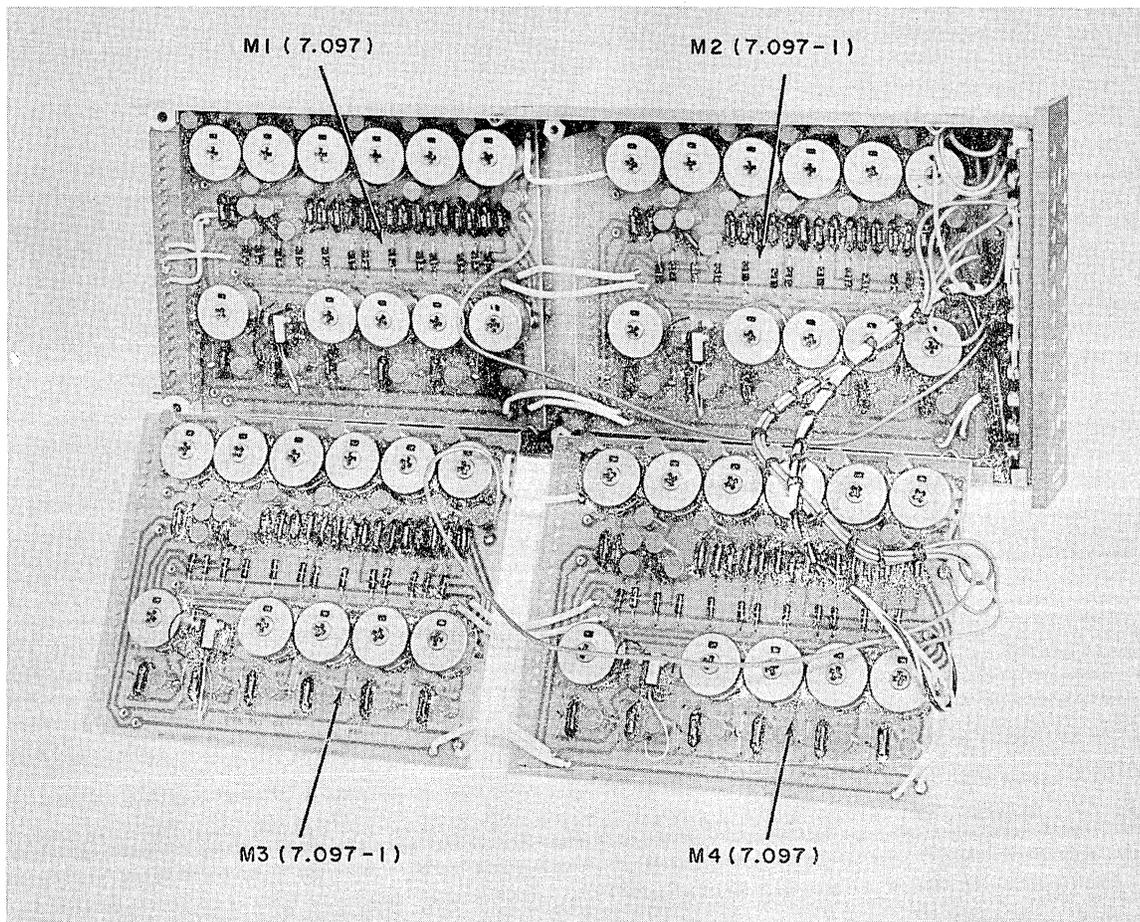

Figure 20. Multiplier With Card in Maintenance Position
Figure 20 shows a multiplier with the top two cards swung out for access to the bottom two cards. This permits access to all components for maintenance of the 7.096 Multiplier.
(5) If the measurements of Steps (3) and (4) differ, adjust balance control number 1 (Figure 20) for the mean of this difference.